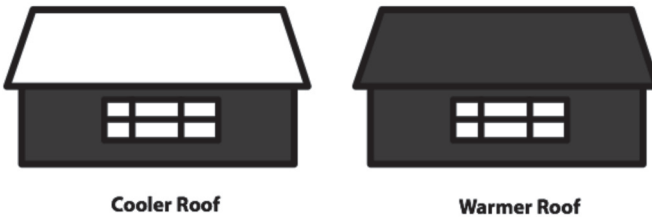

Figure 9-79. The color of the roof affects the temperature of the roof—darker will be hotter.
- 3) applying a white or reflective roof coating, Figure 9-79,